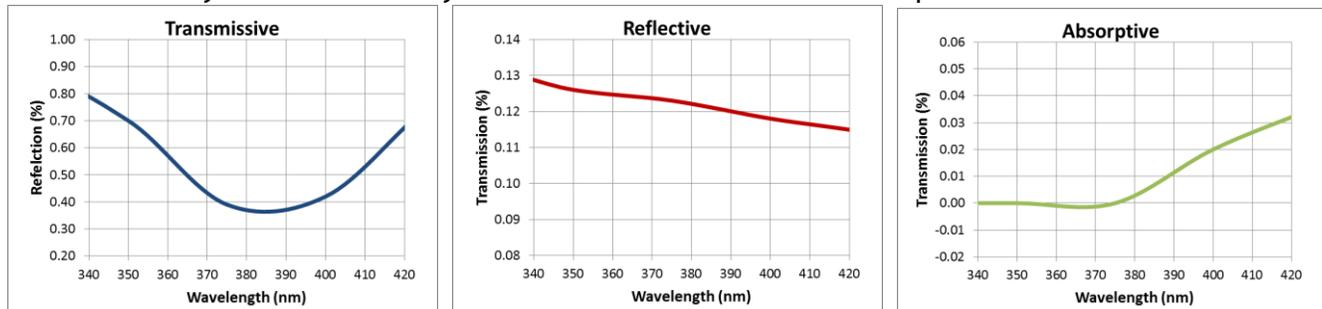

Figure 2: Substrate Coating Optical Curves
Phoseon tested the temperature of three types of substrates with an ideal coating (Absorptive, Reflective and Transmissive) under UV LED curing. Figure 2 shows their optical properties. Two UV LED light sources, FireJet™ FJ200-150x20AC-14W-395nm and FireEdge™ FE300-110x10AC-5W-395nm were used as curing lamps. The light sources were turned on at room temperature, with full intensity, and moved at different scanning speed. The substrates were positioned at different working distances (WD). A thermal sensor was attached to each substrate to record the real-time temperature.